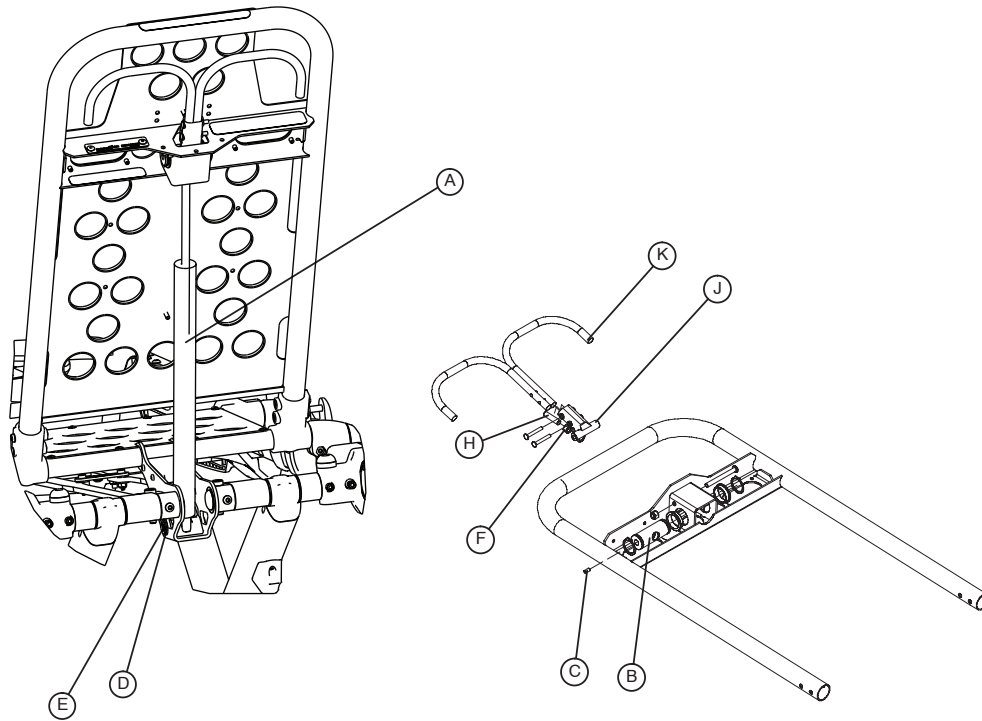

Figure 55 - Pneumatic Cylinder and Fowler Cross Brace
**Note:** Before continuing with the backrest adjustment procedure (see Figure 55), be sure that the cylinder (A) is completely threaded into the yoke (B) so no threads are showing on the shaft of the cylinder. If threads are showing, use a 3/32" Allen wrench to remove the set screw (C) in the center of the yoke and remove the E-clip and pin (D & E) that holds the bottom of the pneumatic cylinder. Thread cylinder shaft (A) completely into yoke (B). Replace the E-clip and pin (D & E) and replace the set screw (C) using Locktite.